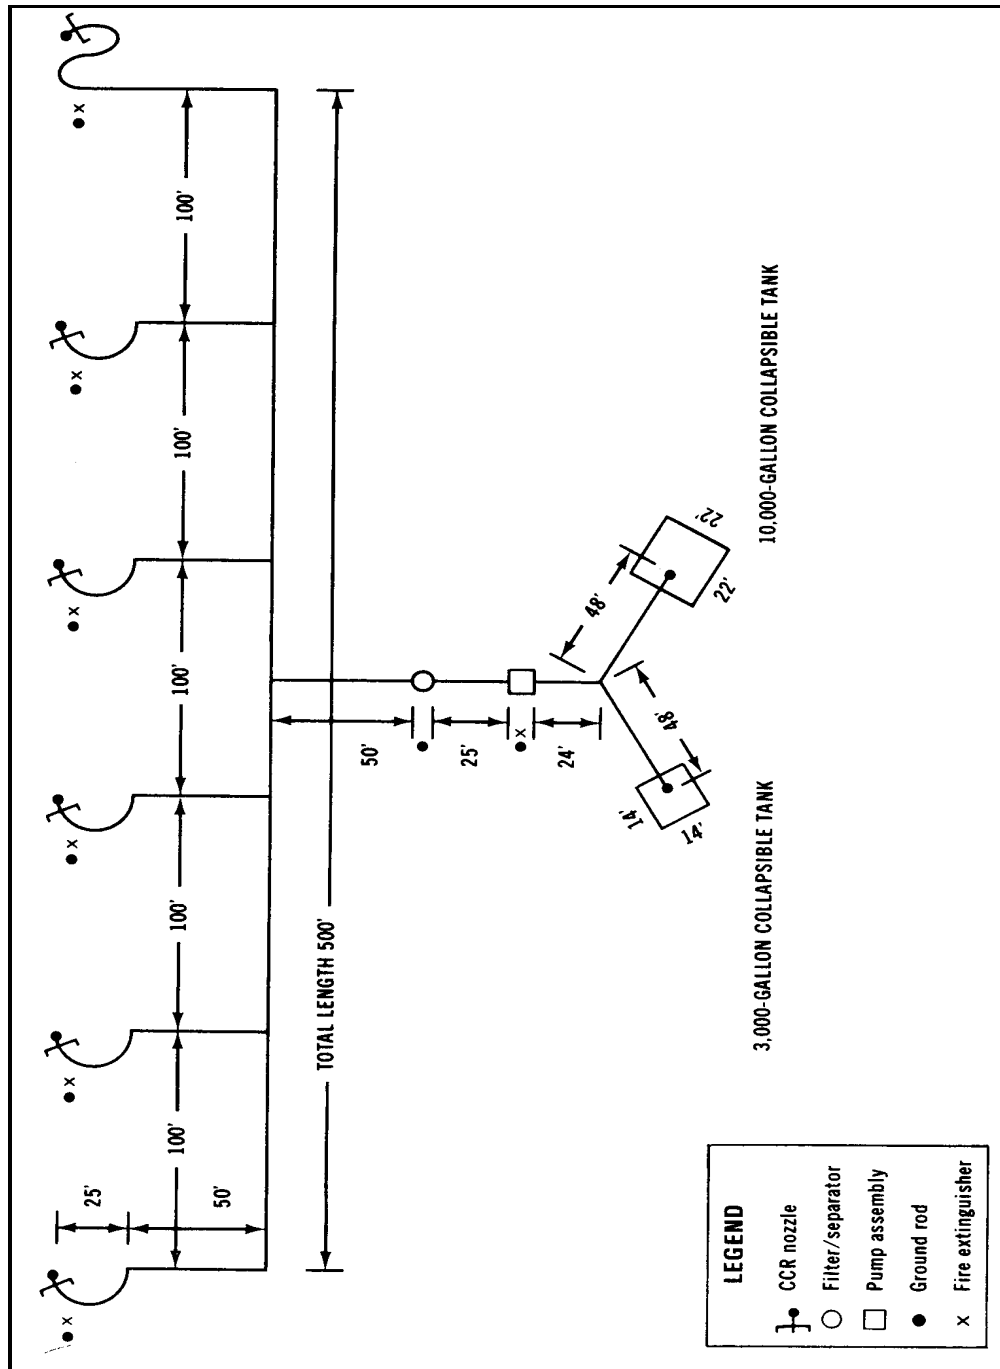

Figure 15-6. Layout of six-nozzle temporary refueling system for OH-6, OH-58, AH-1, and UH-1 helicopters
- Small helicopters. Use the same layout to fuel all of the small Army helicopters. The fueling nozzles must be placed so that there is a 100-foot space between nozzles. Figure 15-6, page 15-17, shows a six-nozzle layout for small helicopters (OH-6, OH-58, AH-1, and UH-1). Layouts for five-, four-, three-, and two-nozzle systems for these aircraft are shown in Figure 15-7, page 15-18. These layouts provide 100 feet between nozzles which is adequate spacing for rapid refueling.
Figures 15-6 through 15-12, pages 15-17 through 15-24, are guides to laying out equipment systems. Figure 15-10, page 15-22, shows the layout for the refueling system assembly of a six-nozzle system designed to service OH-6, OH-58, AH-1, UH-60, AH-64, and UH-1 helicopters. Figure 15-8, page 15-20, shows a recommended layout for the refueling system of CH-47 helicopters. Figure 15-12, page 15-24, is a detailed drawing of the layout for the six-nozzle system of CH-47 helicopters. It focuses on the principal valves and fitting assemblies. The CH-47 system varies from the other system (Figure 15-11, page 15-23) in that the hose sections are arranged to provide increased distance. Figure 15-13, page 15-25, shows the main valve and fitting assemblies of all recommended temporary refueling system equipment layouts.
Position a fire extinguisher at each refueling nozzle and at the pump assembly. Place the fire extinguishers as shown in Figures 15-6, through 15-8, pages 15-17 through 15-20 and 15-10 through 15-12, pages 15-22 through 15-24. Twenty pound carbon dioxide (CO₂) or equivalent capacity dry chemical fire extinguishers are recommended.